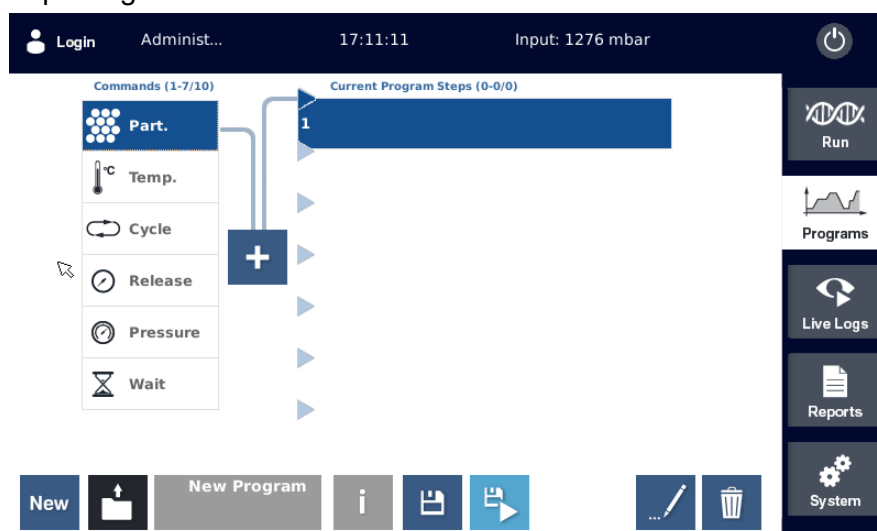

Figure 13: Select the steps of the program.
2. Configure steps of the new program by choosing from the 5 commands (note: the pressure command should only be used by advanced users). To do this, select the desired command on the left side and choose the position to insert it on the right side in the list, then press the “plus icon”  to insert it (Figure 13). Each available command is detailed in Table 10.